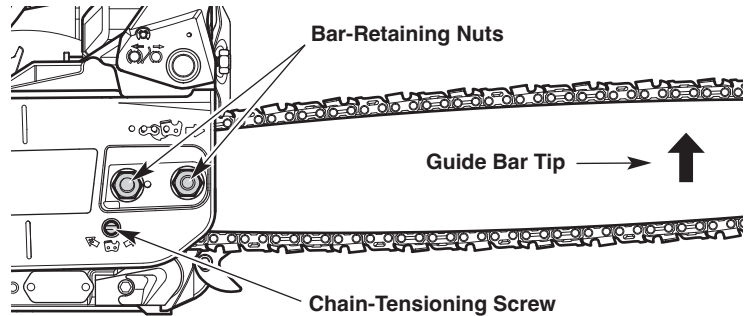

Fig. 26
2. Use the screwdriver or a 1/2 inch (13 mm) wrench to slightly loosen the bar-retaining nuts (Fig. 26).
3. Hold the guide bar tip up and use a flat-head screwdriver to turn the chain-tensioning screw (Fig. 26).